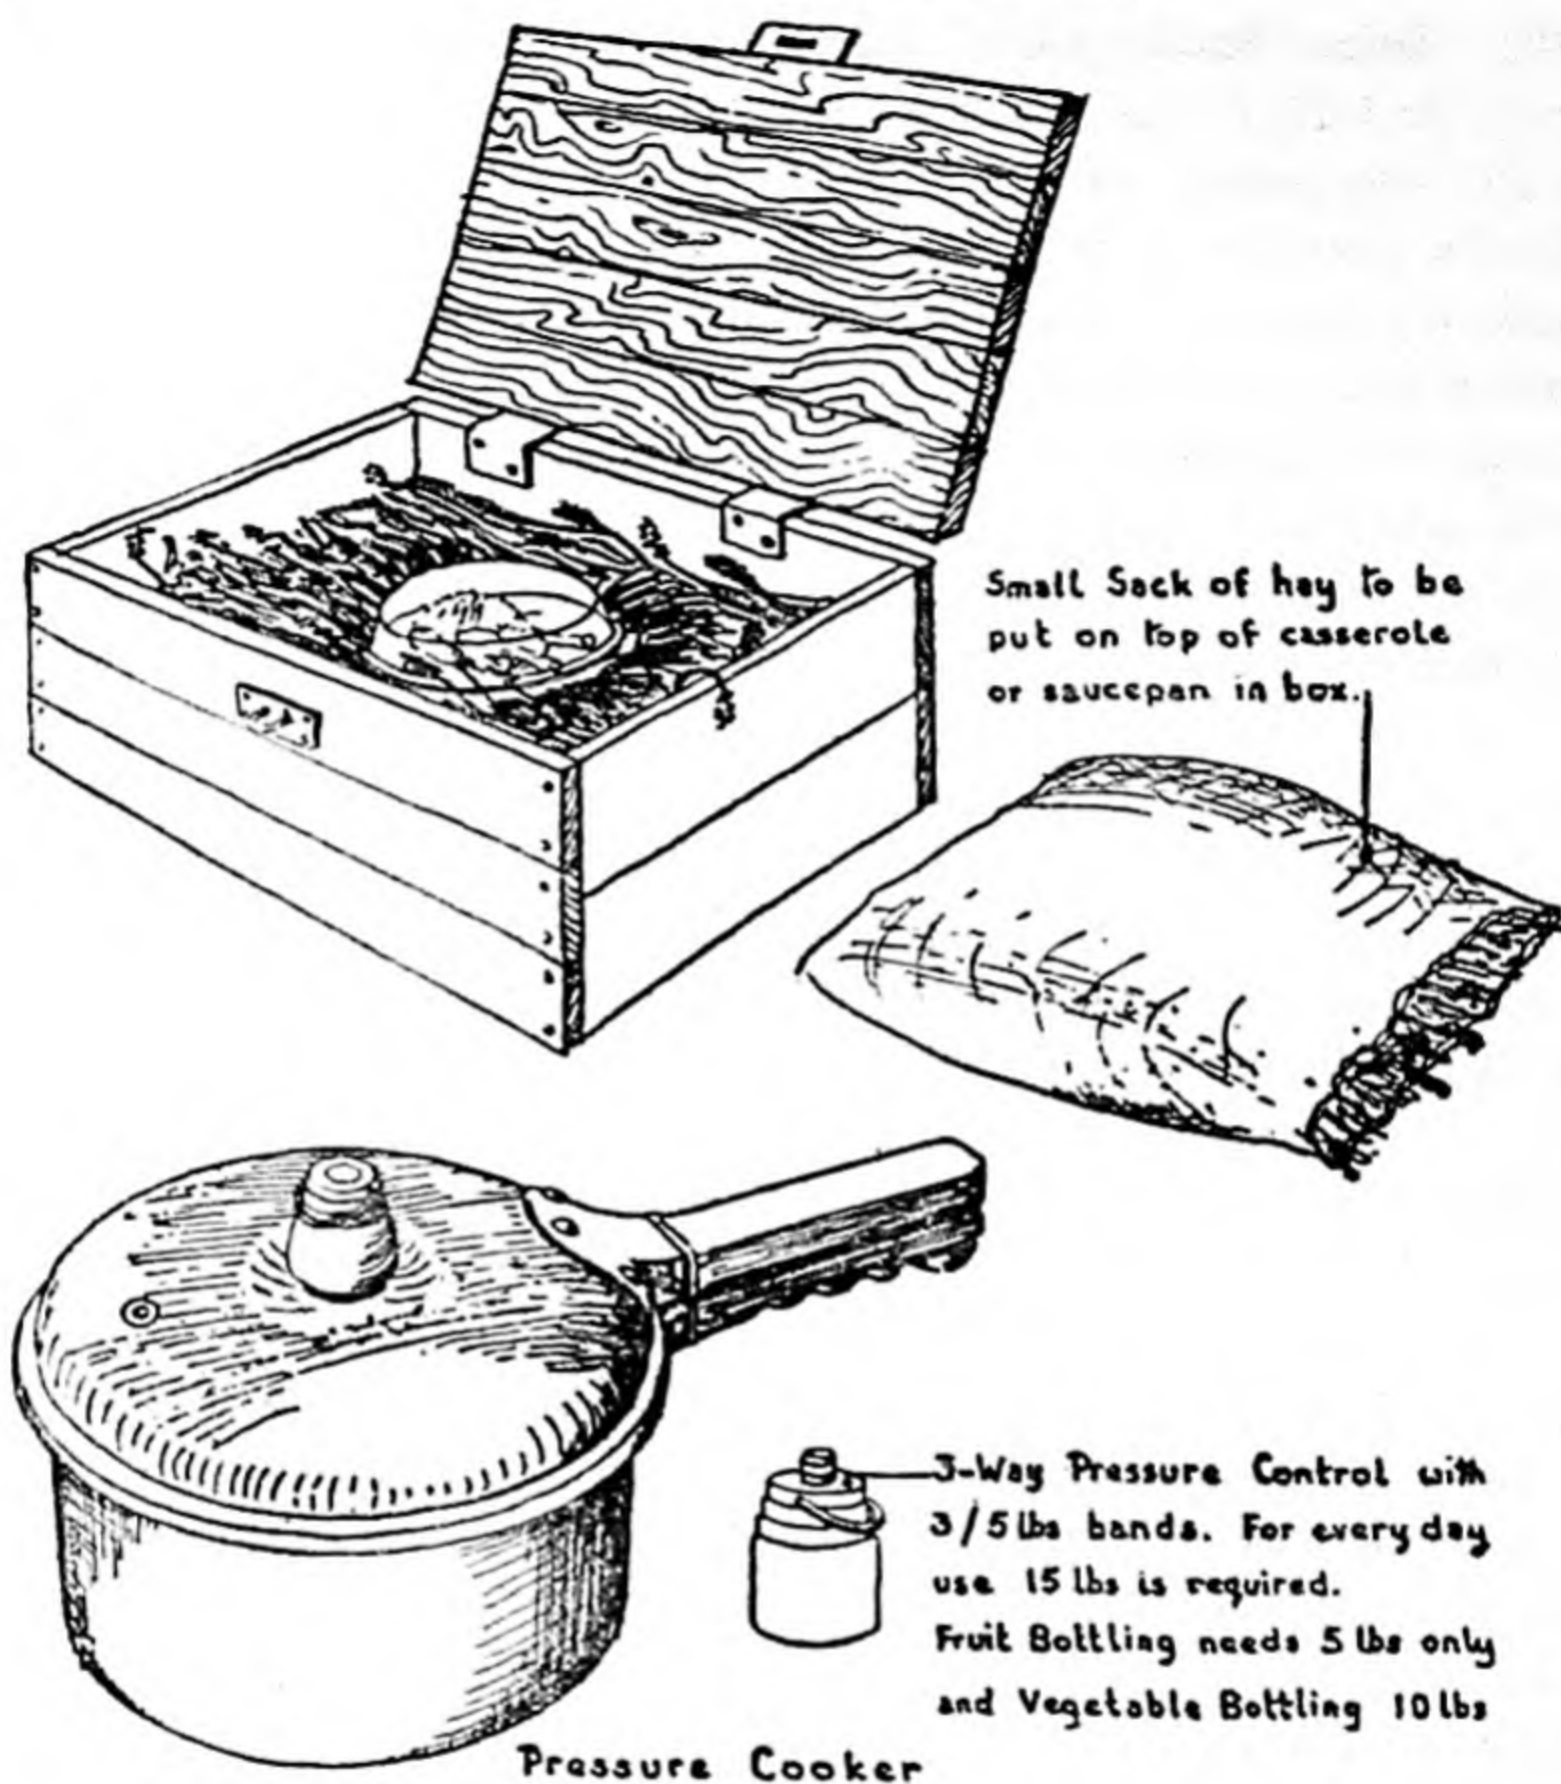

Fig. 16. HAY BOX AND PRESSURE COOKER
*Hay-box Cookery.* In this method of cooking, use is made of the fact that hay and some fabrics are bad conductors of heat, and that when a vessel can be surrounded and covered with hay—if the contents have already attained cooking heat—the cooking process will continue. A deep wooden box is lined and filled with hay, a nest or space being left in the centre to receive the casserole or pan. The food is prepared and cooked for a short time, according to its nature, and then, while still boiling, transferred to the hay-box. A pillow filled with hay should be made to cover the top and a lid fastened down over the contents. (See Fig. 16). Such foods as porridge, stews, dried fruits and milk puddings, if left for several hours, will be found to be perfectly cooked and will only require bringing once more to the necessary temperature for serving. By this means, porridge can be left to cook overnight and will be ready for breakfast next morning. Each individual hay-box will probably differ a little and will require some experiment before times for cooking can be definitely settled. It is not wise to leave meat for more than three hours in a hay-box, for, at the reduced temperature, it may go bad.
The equipment consists of a deep pan with thick sides and a closely fitting lid, which has to be correctly adjusted and which should not be removed while the steam pressure is fully on. The food is placed in the cooker—with separate containers, several types of food may be cooked at the same time—but it is necessary not to fill it more than half-full with liquid, or three-quarters-full with solid food. Add exactly the amount of water which is necessary for the cooker in use: this instruction will be given with the cooker and, frequently, a measure will be provided, and the amount should be rigidly adhered to. The lid is now closed and the steam escape left open. The cooker is then placed on the stove, whether gas, electricity, etc., at the highest heat. The liquid is brought quickly to the boil and the air driven out. When steam comes out from the escape, it should be closed; the pressure will then rise, usually to 15 lb. per square inch, at which the steam makes a hissing noise as it is forced out through the escape. The gas or other form of heat should be reduced to low, and the cooking time reckoned from this moment. The times for cooking various dishes are supplied with the cooker, and since the cooking is so rapid that a few minutes only are required, it is very necessary that the food should not be overcooked by wrong timing. There are various types of pressure cooker on the market whose adjustment and use will vary a little; the principles given here will be found to be the same. (See Fig. 16.) Some types of cookers are provided with three different pressure weights, 15 lb., 10 lb. and 5 lb. For most purposes the 15-lb. pressure is required; for bottling vegetables the 10-lb. pressure, and for fruit bottling the 5-lb. pressure.